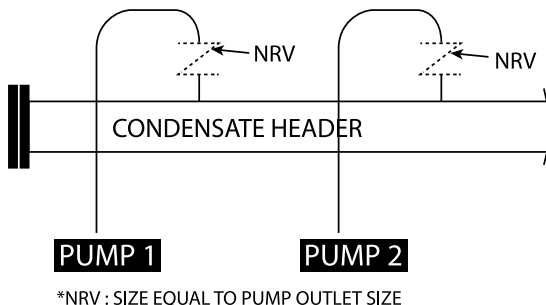

Figure 5: More than one pump connected to common condensate line
- 5.2 In case more than one condensate pump is connected to a common Condensate line: (Refer to Figure 5)